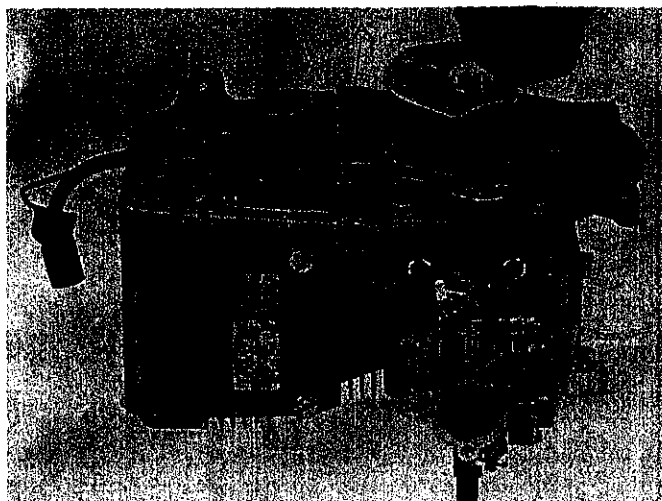

FIGURE 4. REMOVING DUST COVER
5. Remove breaker box cover gasket and spring. See Fig. 4. The purpose of this cover is to prevent dust and dirt from affecting life and performance of the
6. Note the position of the magneto stator plate attaching screws. One of these screws is indicated by the arrow and "A" in Fig. 4. Timing of the engine is determined by the position of these screws in their slots. If the stator plate is to be removed from the support plate, it must be replaced in the same position. Refer to the Ignition Specifications at the end of this section to determine the correct amount of magneto advance for the model being worked on. Also see chapter on "Coil Replacement" in this section for further detail.